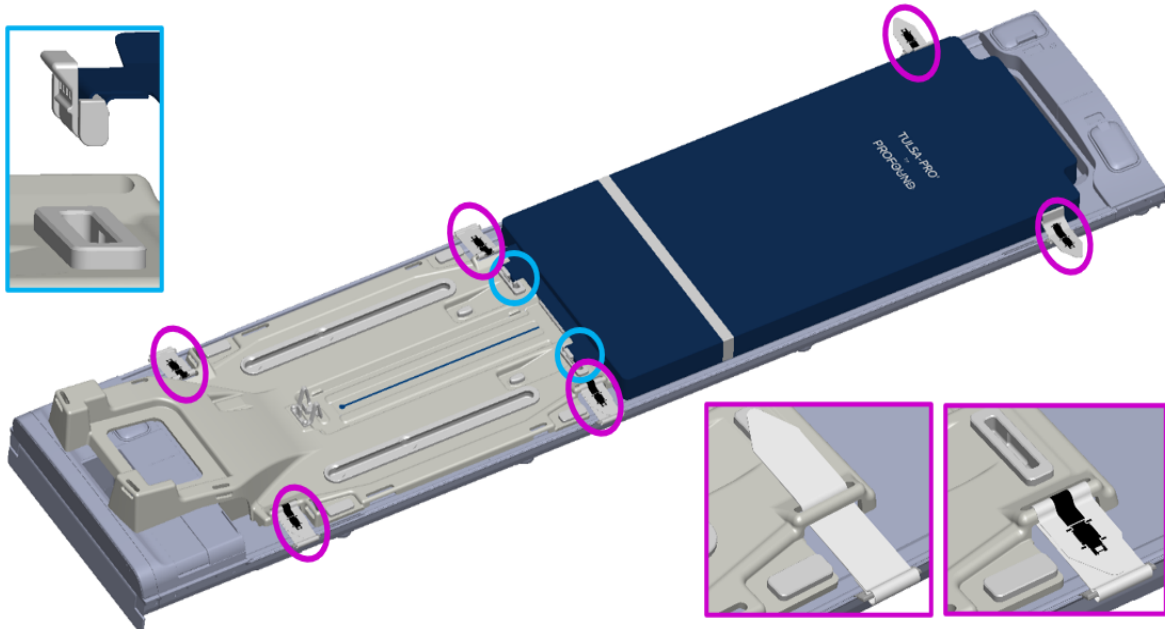

Figure 2: Securing the base plate and patient pad to the MRI bed
1. **MRI Technologist** Attach the base plate onto the foot end of the MRI table and secure using the four base plate straps (*Figure 2*, your configuration might not match exactly as shown). The feet of the base plate should fit in the rails of the MRI table and not move around when in position.
2. Place the patient pad on the MRI table and secure it using the provided straps shown in (*Figure 2*, your configuration might not match exactly as shown).